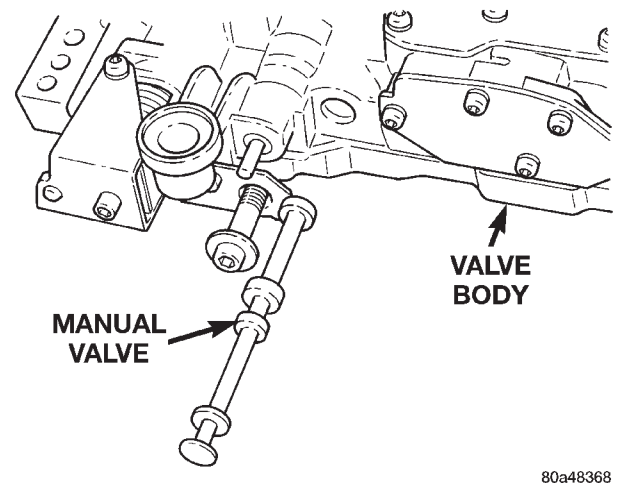

Fig. 43 Manual Valve
(7) Remove manual valve from valve body (Fig. 43)